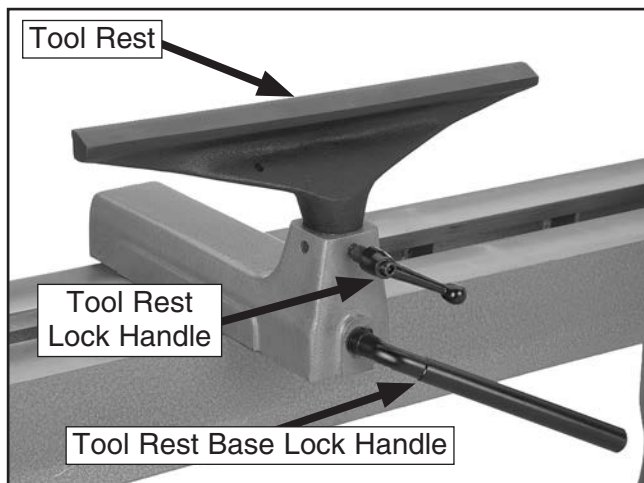

Figure 23. Tool rest controls.
1. Loosen the tool rest base lock handle and move the tool rest assembly to the desired position on the lathe bed (see **Figure 23**).